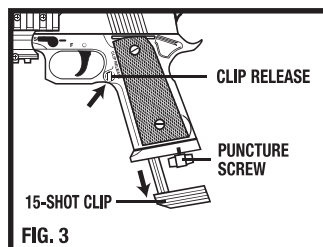

FIG. 3
- Remove the clip by pushing the clip release button (Fig. 3)